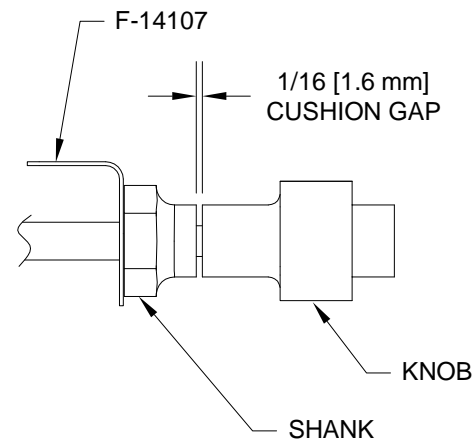

FIGURE 1: CONTROL CABLE, TYPICAL
Step 3: Install the mixture control cable as shown in Figure 1, Figure 3 and Section OP-22, Ensure the mixture control cable installation meets the vital criteria listed on Page 50-02. If necessary, adjust the clocking of the mixture arm.